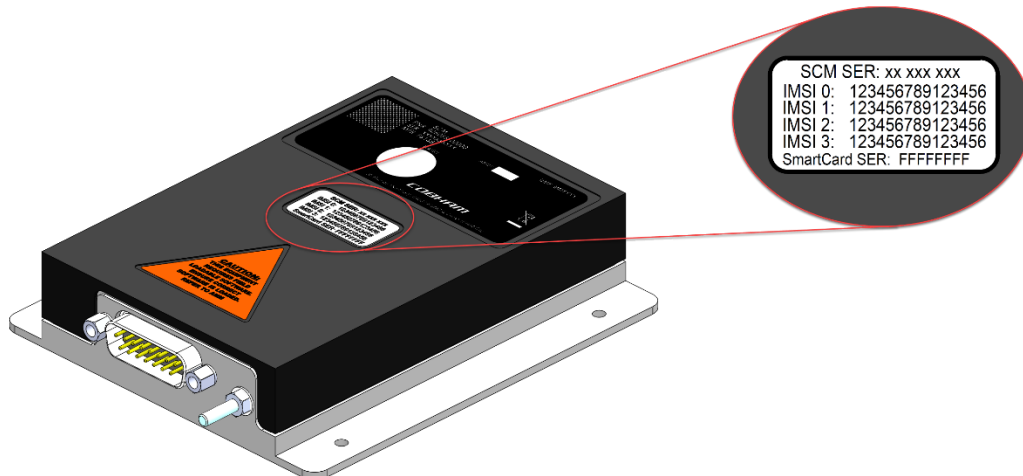

Figure 4-1: AVIATOR S SCM | IMSI & Smart Card Identification
- Label information on the SCM itself (see Figure 4-1)